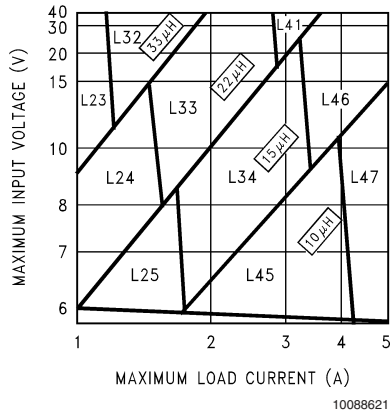
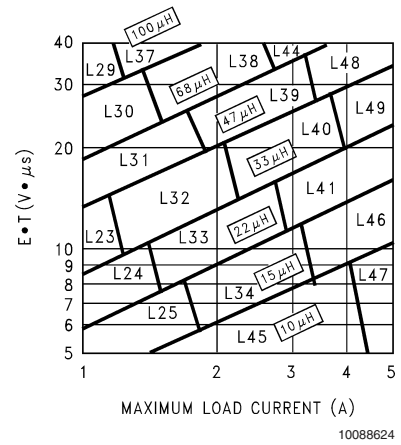

FIGURE 3. LM2678-3.3
FIGURE 6. LM2678-ADJ
**Step 3:** Determine the inductor required by using one of the four nomographs, *Figure 3* through *Figure 6*. Table 1 provides a specific manufacturer and part number for the inductor.
**Step 5:** Determine an input capacitor from Table 4 for fixed output voltage applications. Use Table 2 to find the specific capacitor type. For adjustable output circuits select a capacitor from Table 2 with a sufficient working voltage (WV) rating greater than  $V_{in\ max}$ , and an rms current rating greater than one-half the maximum load current (2 or more capacitors in parallel may be required).
**Step 3:** Use the nomograph for the 3.3V device, *Figure 3*. The intersection of the 16V horizontal line ( $V_{in\ max}$ ) and the 4A vertical line ( $I_{load\ max}$ ) indicates that L46, a 15 $\mu$ H inductor, is required.
**Step 3:** To use the nomograph for the adjustable device, *Figure 6*, requires a calculation of the inductor Volt $\cdot$ microsecond constant ( $E \cdot T$  expressed in  $V \cdot \mu s$ ) from the following formula:
Using *Figure 6*, the intersection of 27V•μS horizontally and the 3.5A vertical line ( $I_{load \text{ max}}$ ) indicates that L48, a 47μH inductor, or L49, a 33μH inductor could be used. Either inductor will be suitable, but for this example selecting the larger inductance will result in lower ripple current.
**Important Note:** When using the adjustable device in low voltage applications (less than 3V output), if the nomograph, *Figure 6*, selects an inductance of 22μH or less, Table 6 does not provide an output capacitor solution. With these conditions the number of output capacitors required for stable operation becomes impractical. It is recommended to use either a 33μH or 47μH inductor and the output capacitors from Table 6.